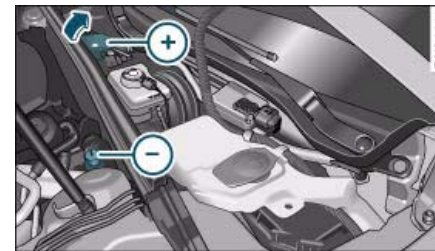

Fig. 259 Engine compartment: Terminals for jump leads and battery charger
- Open the red cap on the positive terminal ⇒ fig. 259.